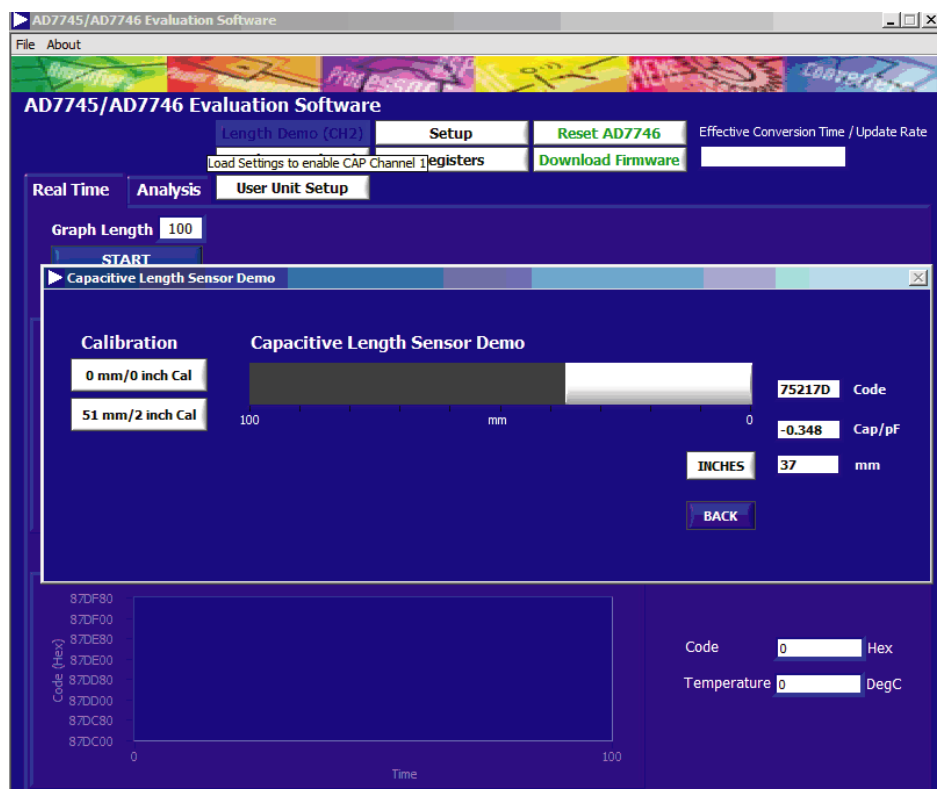

Figure 6. Capacitive Length Sensor Demo
- Click the **Length Demo (CH2)** button. This enables continuous conversions on Capacitive Channel 2 in single-ended mode, enables EXC A as the excitation output pin, sets the update rate, and initializes CAP DAC A. The dialog box shown in Figure 6 appears.